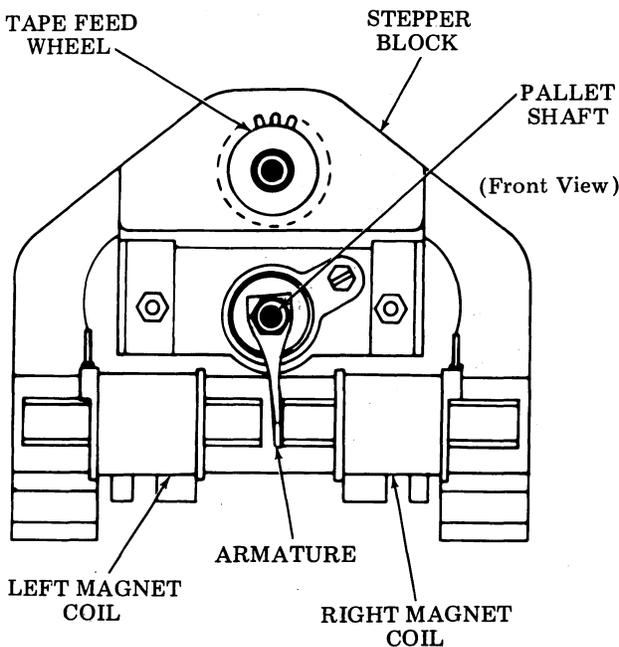

Figure 4 - Armature and Coil Assembly
3.07 A command to step is initiated by an input clock pulse into the electronic magnet driver, which removes current from the energized coil and applies current to the opposite step coil, attracting the armature to the pole face. Since the armature and pallet are rigidly attached to the same shaft, motion of the armature causes motion of the pallet releasing the escapement wheel (Figure 4).
3.08 Torque transferred through the escapement drive spring is converted to rotary motion on the escapement wheel, which is allowed to turn to its next position (Figures 4 and 5). Escapement wheel rotation is limited to 15 degrees and tape motion to 0.1 inch.